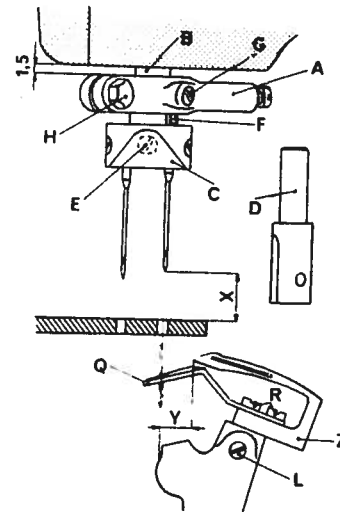
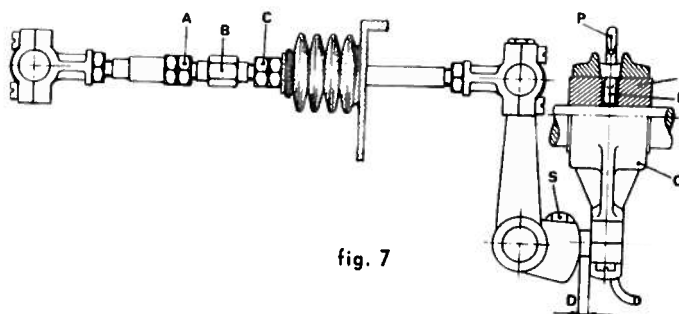

fig. 3
fig. 7
- S 1651.00 for operations as in fig. 3
- S 1652.00 for operations as in fig. 7
3. Setting the needle (fig. 3):
- Insert looper Z in its holder so that it goes all the way in and then tighten screw L against the flat surface of the looper (fig. 3).
- Obtain measurement D using gauge S. 01652.00 for the lower looper movement connecting rod (fig. 7) applying same on nut S.
- Also obtain from the setting table measurement Y for the distance between the point of the looper and the side of the righthand needle (fig. 3).
- Loosen counternuts A and C (fig. 7) and rotate pin B in one or other direction until measurement Y (fig. 3) is obtained (gauge S. 1651.00).
- Slightly tighten both counternuts A and C (fig. 7).
If the stroke of the looper is retarded or advanced, both inner setting screws M of eccentric N of connecting rod O (fig. 7) must be loosened and, holding the eccentric N in place, rotate the pulley of the machine till the proper position is obtained.
Note If this is not the case, the looper stroke must be lengthened or shortened by adjusting screw S (fig. 7) thus varying measurement D. If this is done all the settings described above must be modified except those given in the first paragraph.
- Lock countenuts A and C (fig. 7).
Note: When the connecting rod is moved in order to obtain distance D (fig. 7) care must be taken that eccentric N is centered in relation to the connecting rod head O. Should an excessive change in distance D be necessary, bend lubrication tube P so that it is in the centre of lubrication hole O of the connecting rod.
5. Setting of front needle guard on looper (fig. 3)